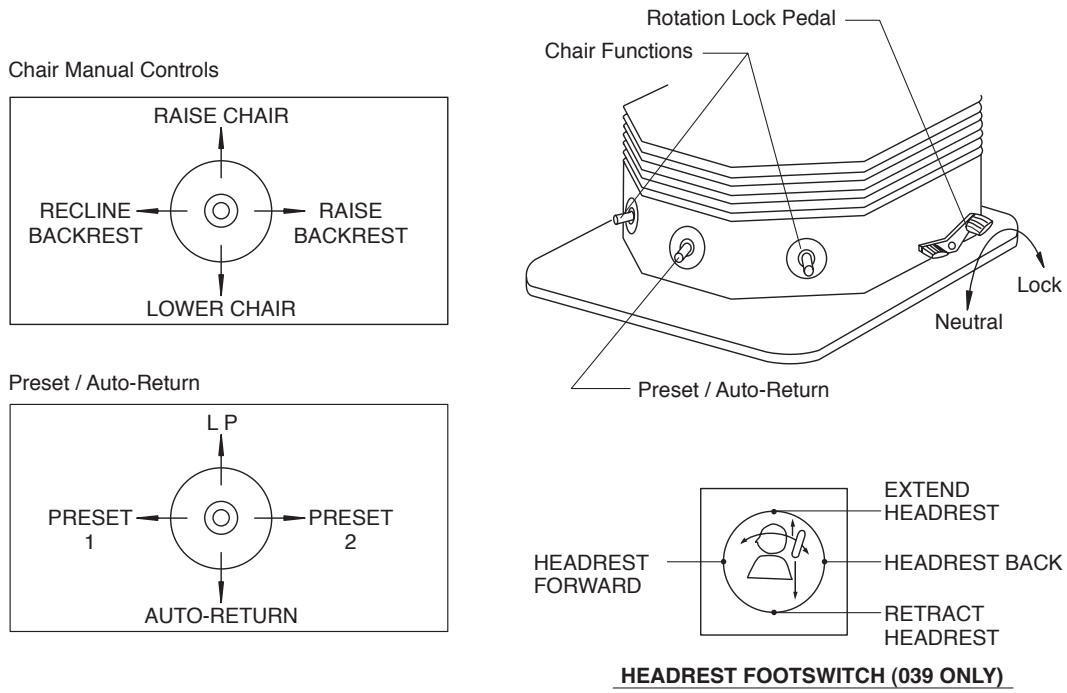

Fig. 4-1 Control Switch Location & Function
Turn on the Main Switch located on left side of Pump Cover. (See Fig. 4-1.)
1) Chair Manual Controls (See Fig. 4-1.)
2) Chair Auto-mode Controls (See Fig. 4-1.)
3) Power Headrest Controls (039) (See Fig. 4-1.)